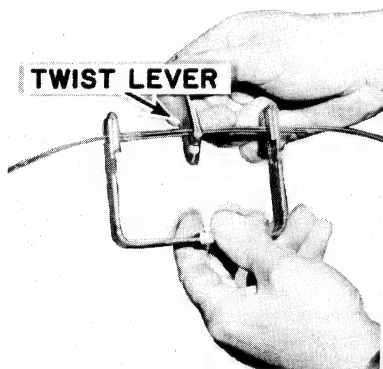
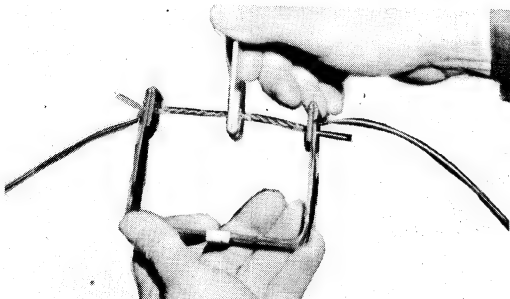

FIGURE 12
FIGURE 13
2. Lay the two wires in the twist bracket as shown in Figure 12. Let the ends of both wires protrude about $\frac{1}{2}$ " (13 mm) beyond the bracket as shown in Figure 12.
3. Install the twist lever over the two wires as shown in Figure 12, and then turn the lever four complete turns, as shown in Figure 13, to complete the twist.